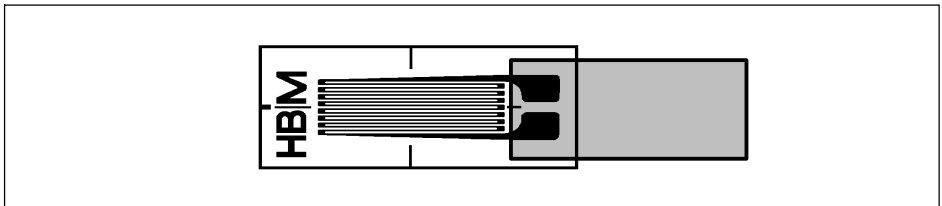

Fig. 5.3 Hinge-like connection for SG without lead
- ▶ In SG without leads, create a hinge-like connection as shown in Fig. 5.3 (without additional solder terminals).